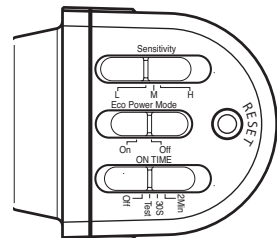

Figure 4
- If eave mounted, mount the fixture with sensor facing away from the house wall (see above). Rotate the sensor so the controls on the bottom of the sensor (see Figure 4) face the ground.
IMPORTANT: Slide the ON-TIME switch on the bottom of the sensor to the OFF position and allow the battery to charge with 3 to 7 days of full sunshine before testing (see Figure 4).
1. Slide the sensitivity (SENS) switch to the “L” position, the ON-TIME switch to the TEST position, and the ECO POWER MODE switch to the OFF position (see Figure 4).
- Reset Button (see Figure 4) – Use a paper clip to press the RESET button for 15 seconds to reset the light.